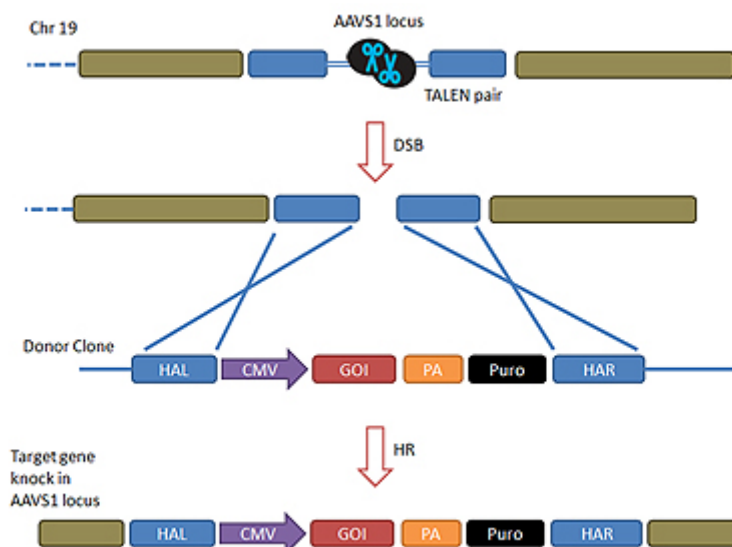

Figure 1. Illustration of TALEN-mediated transgene integration at the safe harbor AAVS1 site of human genome
Genome-TALER™ human AAVS1 safe harbor gene targeting kit is designed to specifically transfer your gene of interest, selection marker or other genetic element from a donor plasmid into the AAVS1 safe harbor site in human chromosome 19 via TALEN-mediated homologous recombination (HR). HR is a natural DNA repair mechanism that occurs in response to DNA double-strand breaks (DSBs). The DSBs here are created by AAVS1-specific TALENs (figure 1).